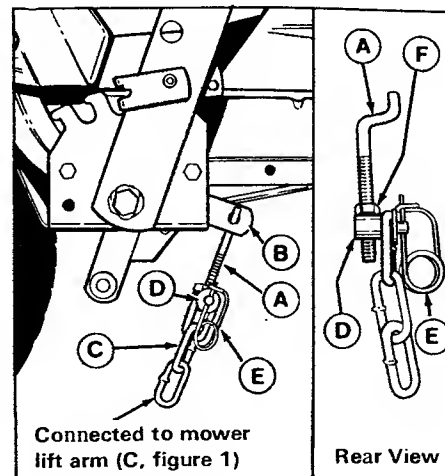

Figure 2 Lift Chain
6. Connect the chain (C, figure 2) to the trunnion (D) with clip (E). For electric lift, use only three links of chain.